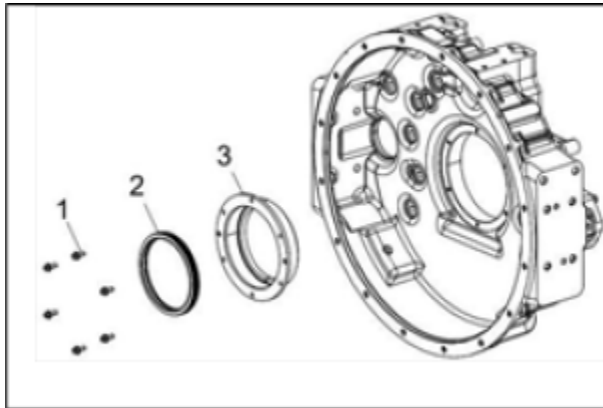

Figure 100.
5. Remove the Rear oil seal (Figure 100 Item 2) from the rear oil seal seat (Figure 100, Item 3).